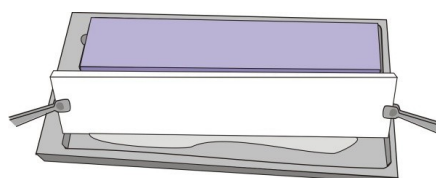

Fig. 3
- Remove excess electrode buffer from the wicks by tilting the electrode wicks along one long edge and dab it on the PaperPool bottom (fig. 3).